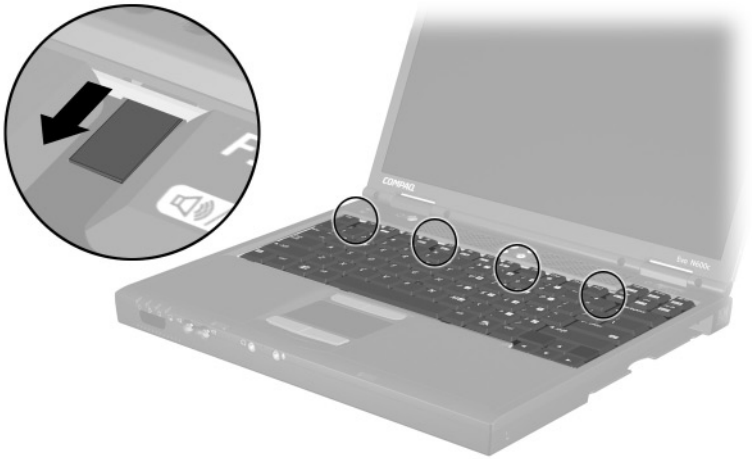

Figure 5-11. Releasing the Keyboard
6. Slide the four tabs on the top of the keyboard forward (Figure 5-11).